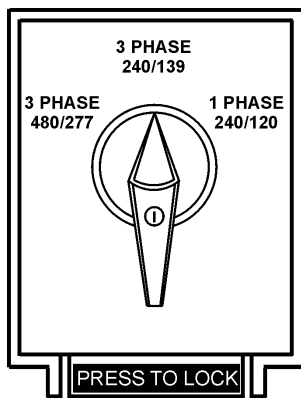

Figure 16. Voltage Selector Switch
The **voltage selector** switch (Figure 16) is located above the output terminal panel's **Hard Wire Hook-up Panel**. It has been provided for ease of voltage selection.
A wide range of voltages are available to supply voltage for many different applications. Voltages are selected by using the **voltage selector** switch (Figure 16). To obtain some of the voltages as listed in Table 7 (see below) will require a fine adjustment using the **voltage regulator** (VR) **control knob** located on the control panel.